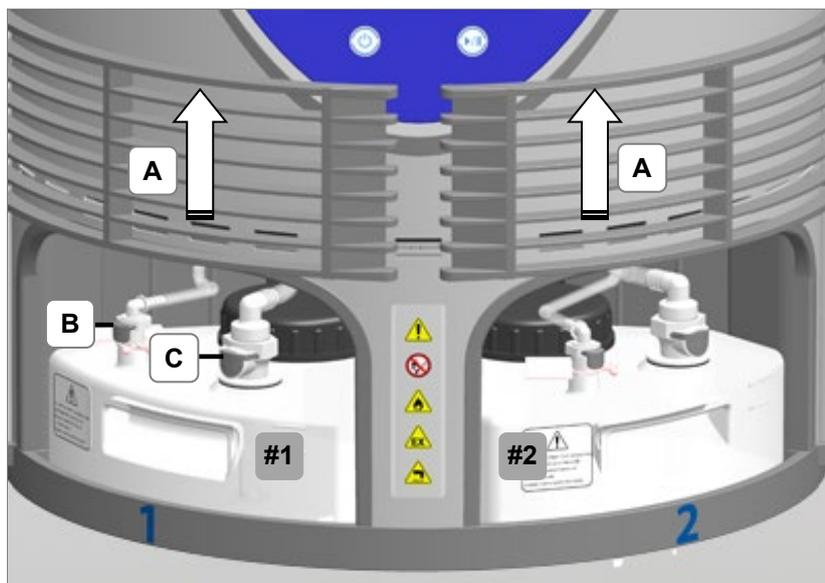

Fig. 4.4.2 Media tank cover opened
1. Push up the covers for the media tanks (*Fig. 4.4.2.A/A*).